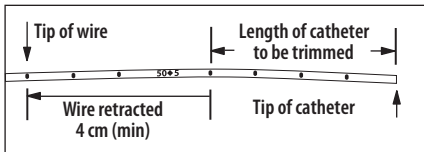

Figure 2
- 7. Withdraw placement wire through sheath to retract wire a minimum of 4 cm behind catheter cut location (refer to Figure 2).